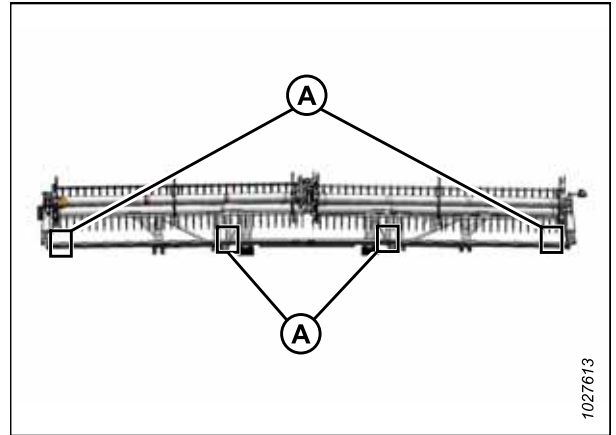

Figure 4.265: FlexDraper® Measurement Locations – Double Reel
- Double-reel headers: Figure 4.265, page 425